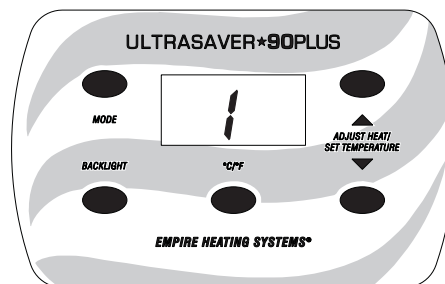

Figure 57
1. Start the wall furnace by pressing the display panel's "Mode Select" button once from remote mode to start the wall furnace manually. **See Figure 57.** The Display Panel will energize, and the desired heat level will be displayed.